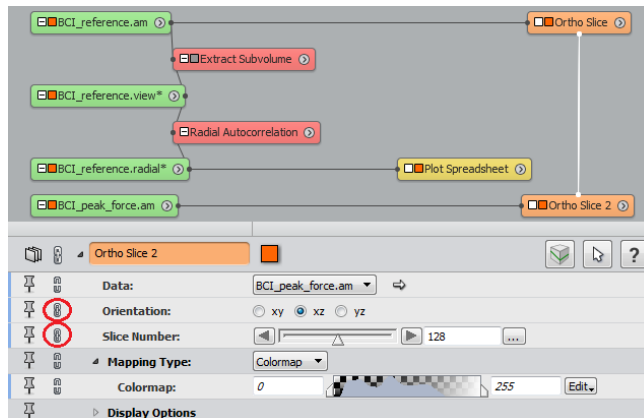

Figure 23.5: Connections between Ortho Slices
- Link the Ortho Slices attached to *BCI_reference* and *BCI_peak_force* using the Connection Editor (drag the *Slice number* port and the *Orientation* port of one Ortho Slice to the other on the Project View) (see Figure 23.5).